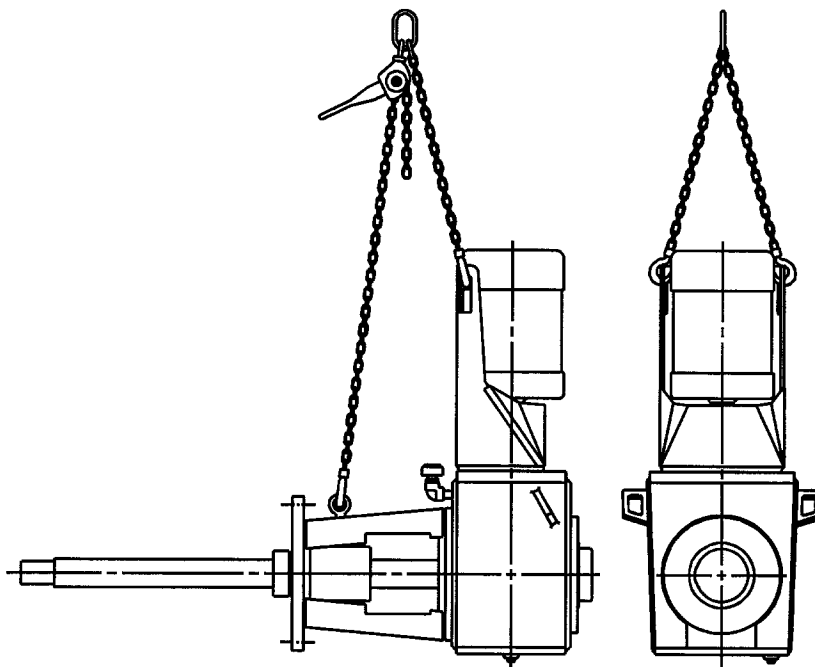

Figure 4: Agitator Lifting System
1. Lift the agitator with a three-point system utilizing the cutouts on the sides of the motor bracket and the eyebolt on the pedestal near the mounting flange. The eyebolt may also be used with a come-a-long to align the shaft for mounting. Refer to *Figure 4*.